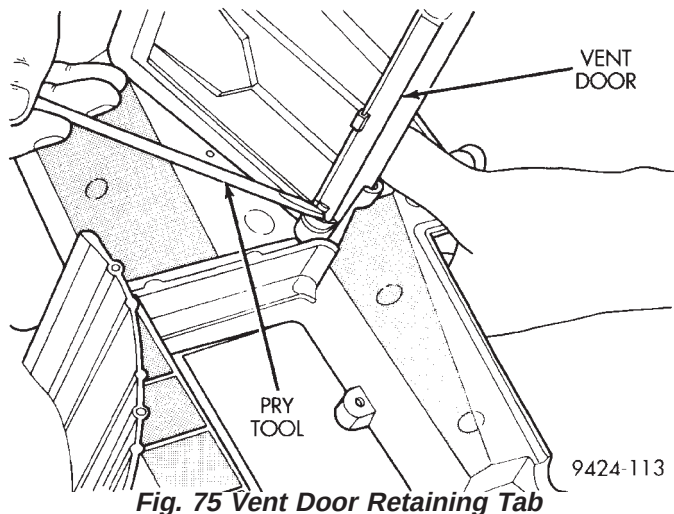
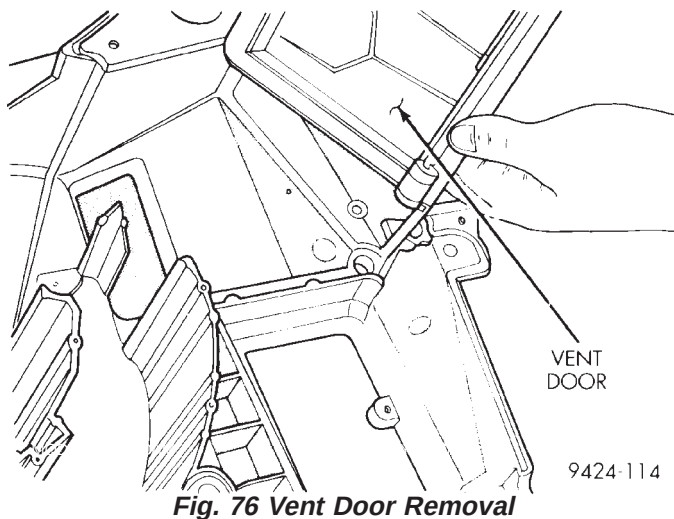

**Fig. 75 Vent Door Retaining Tab**
**Fig. 76 Vent Door Removal**
(21) Using a flat blade screwdriver, pinch in the retaining tab at the base of the vent door (Fig. 75). Pull up on door and remove from housing (Fig. 76).